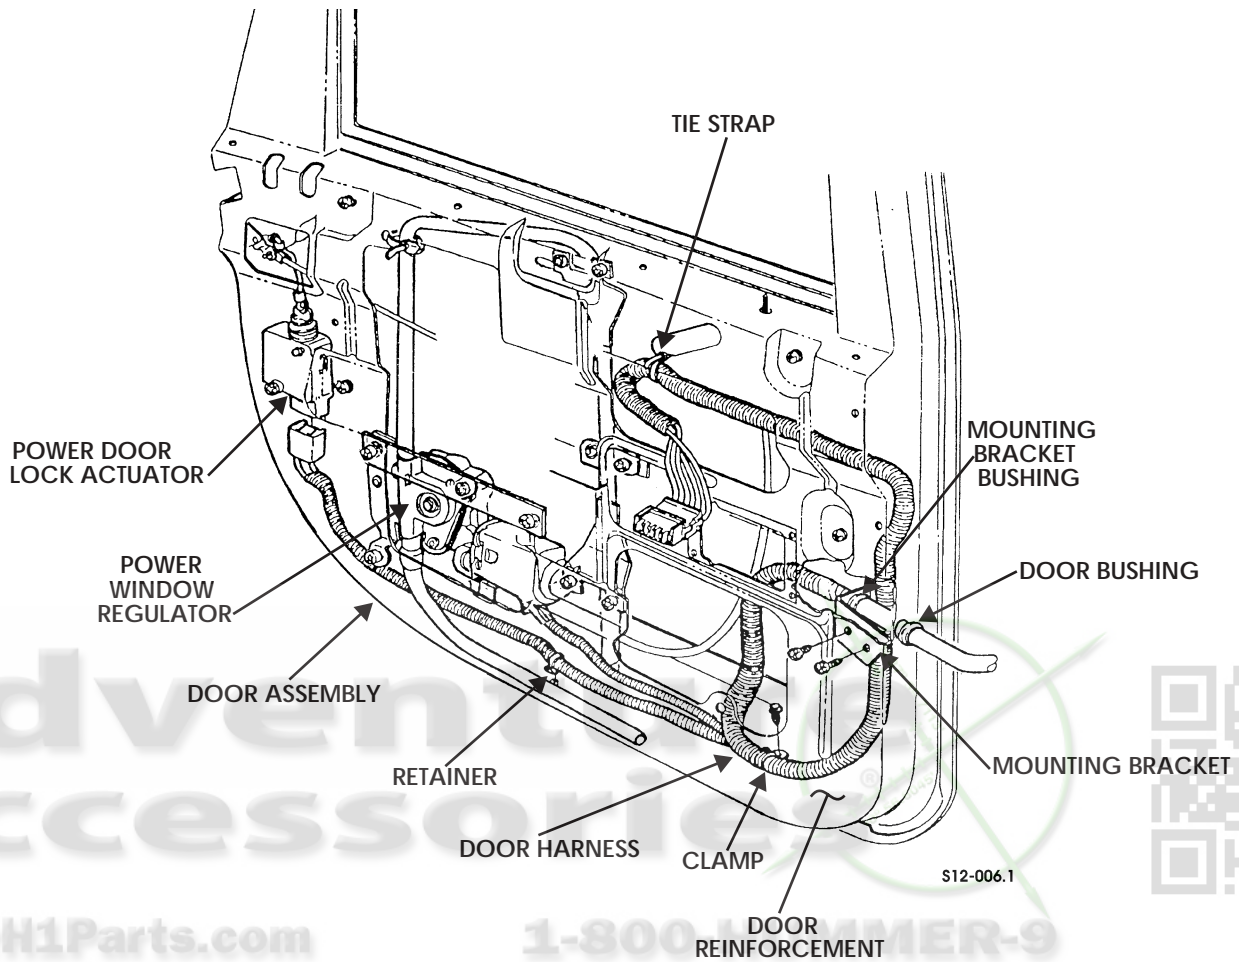

Figure 13-88: Rear Door Harness
10. Remove two self-tapping screws and harness mounting bracket from door assembly (Figure 13-88).
1. Route harness through harness mounting bracket, mounting bracket bushing, and door bushing (Figure 13-88).
7. Connect harness connector to power window regulator (Figure 13-88).